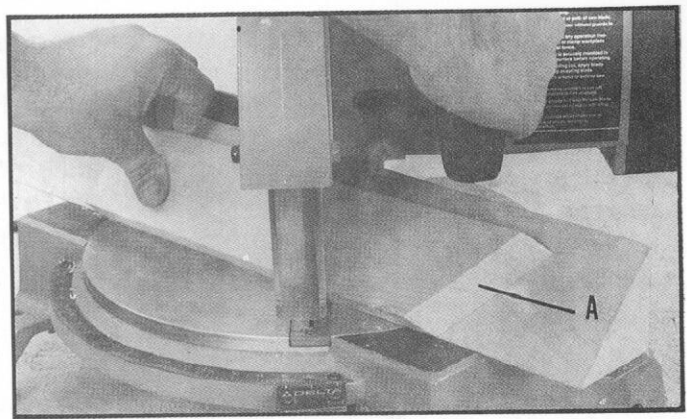

Fig. 51
Fig. 51, illustrates making a compound miter cut at the 45 degree right miter position. The 45 degree left compound miter cut, shown at (A) Fig. 51, was previously cut with the saw blade at the 45 degree left miter position.